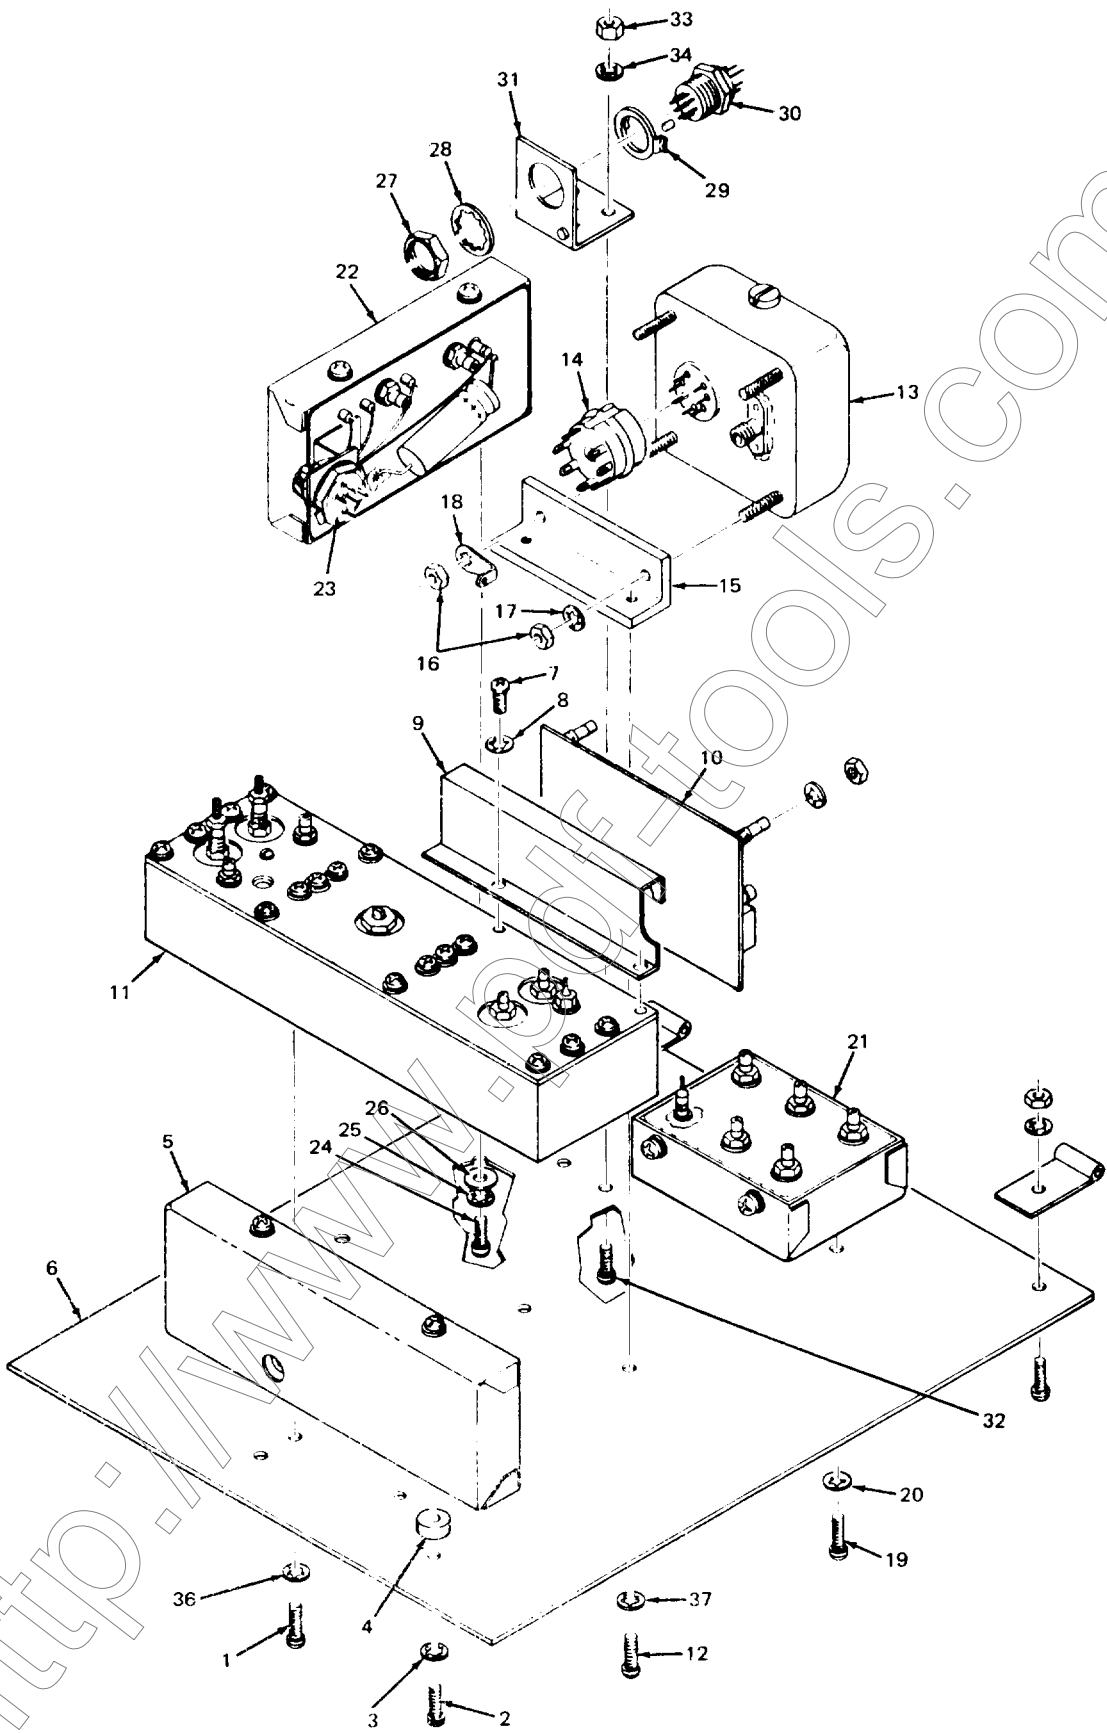

Figure 5-48. Upper floor disassembly/reassembly diagram.
(1) Attach two 1/4" Phillips screws (24), two lockwashers (25), and two flat washers (26) which secure Clock Divider mechanical assembly (22) to Upper Floor (6) (figure 5-48).
(2) Install tagged coax cables. Install mating connector to connector (23) (figure 5-48).
(3) Attach two 1/4" Phillips screws (19) and two lockwashers (20) which secure Master Oscillator Output Distribution Amplifier (21) to Upper Floor (6) (figure 5-48).
(4) Install tagged coax cables and solder wire to feed-through at Master Oscillator Output Distribution Amplifier (21) (figure 5-48).
(5) install TCXO Master Oscillator (13) to mounting bracket (15) (figure 5-48).
(6) Attach two hex nuts (16), one lockwasher (17), and one ground lug (18) which secure Master Oscillator mounting bracket (15) to TCXO Master Oscillator (13) (figure 5-48).
(7) Attach two 5/16" Phillips screws which secure Master oscillator mounting bracket (15) to the Upper Floor (6) (figure 5-48).
(8) Install tagged coax cable to TCXO Master Oscillator (13). Plug in tube socket (14) to TCXO Master Oscillator (13) (figure 5-48).
(9) Install 1200-2200 MHz Oscillator mechanical assembly (11) to Upper Floor (6) (figure 5-48).
(10) Attach four Phillips screws (1) and four lockwashers (36), which secure 1200-2200 MHz Oscillator mechanical assembly (11) to Upper Floor (6) (figure 5-48).
(11) Attach tagged coax cables to 1200-2200 MHz Oscillator mechanical assembly (11) (figure 5-48).
(12) Install AGC mounting bracket (9) with AGC Circuit Board (10) to 1200-2200 MHz oscillator mechanical assembly (11) (figure 5-48).
(13) Attach two 5/16" Phillips screws (7) and two lockwashers (8) to AGC mounting bracket (9) (figure 5-48).
(14) Attach all of the tagged coax cables necessary to the AGC Circuit Board (10) (figure 5-48).
(15) Solder two tagged wires to feed-through on 1200-2200 MHz Oscillator assembly (11); one wire from AGC Circuit Board (10), the other wire from bracket mounted connector (30) (figure 5-48).
(16) Install Heterodyne Amplifier ,2 Prescaler mechanical assembly (5) to Upper Floor (6) (figure 5-48).
(17) Attach two Phillips screws (2), two lockwashers (3), two spacers (4), which secure Heterodyne Amplifier ,2 Prescaler mechanical assembly (5) to Upper Floor (6) (figure 5-48).
(18) Install tagged coax cables and solder wires to feed-through capacitors at Heterodyne Amplifier ,2 Prescaler mechanical assembly (5) (figure 5-48).